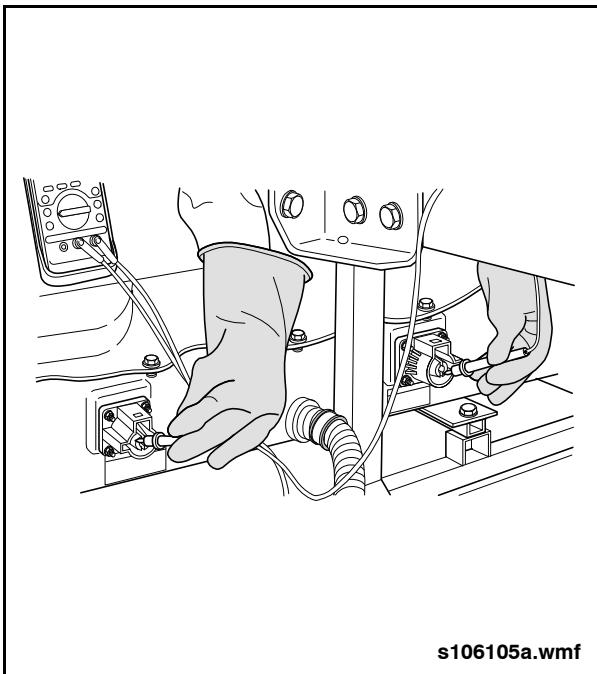

Fig. 55: ESS Voltage Check Between HV Terminals
- a. ESS positive to negative terminals. See "Fig. 55: ESS Voltage Check Between HV Terminals" on page 4. Voltage reading must be less than 3VDC before work can continue.